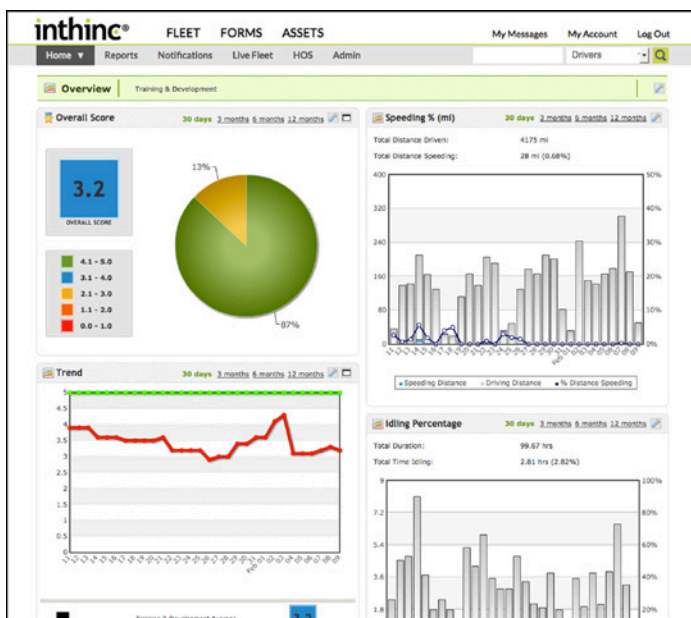

Figure 4 Fleet Performance Dashboard
- **Fleet Dashboard (Figure 4)** shows an administrators view of the organization. Depending on the administrators role in the organization, they may see data ranging from a specific group/division all the way up to the entire fleet.